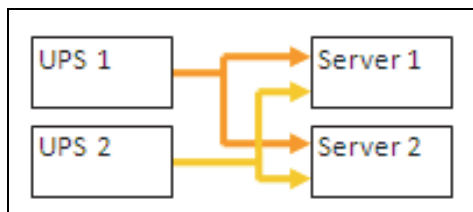
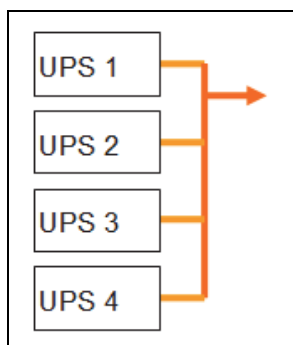

Figure 51. Redundant Supplies
Figure 54. Parallel Redundancy Schema
Figure 51 to Figure 54 illustrate the electrical redundancy topologies.
- **Redundant supplies (such as dual feeds or triple feeds):** Figure 51 illustrates a scenario when two UPSs provide power on one or several multiple-feed servers.